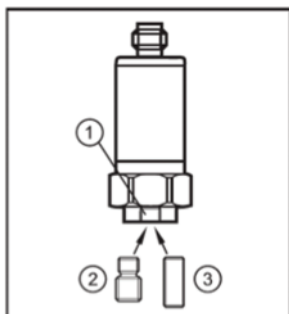

Figure 2
3. Select either 1/4"-28 UNF/M8 (2) or the 1/4"-28 UNF (3) threaded adapter and insert into the unit (1). Both adapters are supplied. Tighten using a 3 mm allen key. Tightening torque 8 Nm. See Figure 2.
4. Drill and tap a hole at the mounting location: See Figure 2
- M8 hole/depth min. 10 mm. For (2)
- Or 1/4" UNF hole/depth min. 13 mm. For (3)